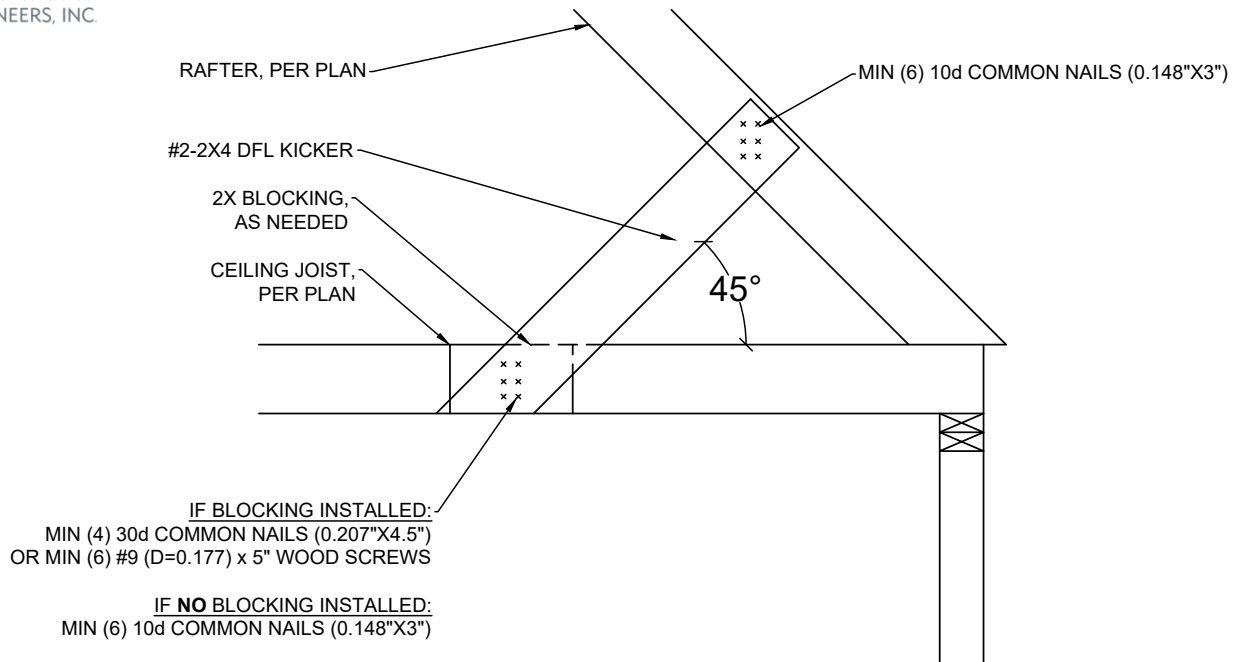

Figure 1.0 – Kicker Connection Detail
- Joists observed with no bearing at the pantry shall be hung into the flush (2) 2x10 beam with Simpson LUS210 face mount hangers, installed per manufacturer's recommendations.
- Where the joists are cut short of the beam, the cantilevered joist shall be lapped min 6" and fastened together with min (10) 10d common nails. The bearing location of the joists on the stud wall shall be fastened to the top plate with Simpson A34 angle clips, installed per the manufacturer's recommendations.
5. *Beam for deck to be (2) 2x12 per plan.*
- 6x6 cedar post and deck pier shall be placed at mid-span of the beam as shown per plans (pg. A-6) or the deck beam shall be replaced with (2) 1-3/4"x11-7/8" Treated PWT 2.0E LVL or 3.5"x11-7/8" 24FV8-1.8E SP/SP Glulam beam.
- #2-2x4 kickers shall be installed at every heel joist connection where the rafter and ceiling joist are not face-nailed. Fasten the kicker to the rafter and ceiling joist per figure 1.0. Install solid blocking between rafters. Install solid blocking as needed for kicker attachment.